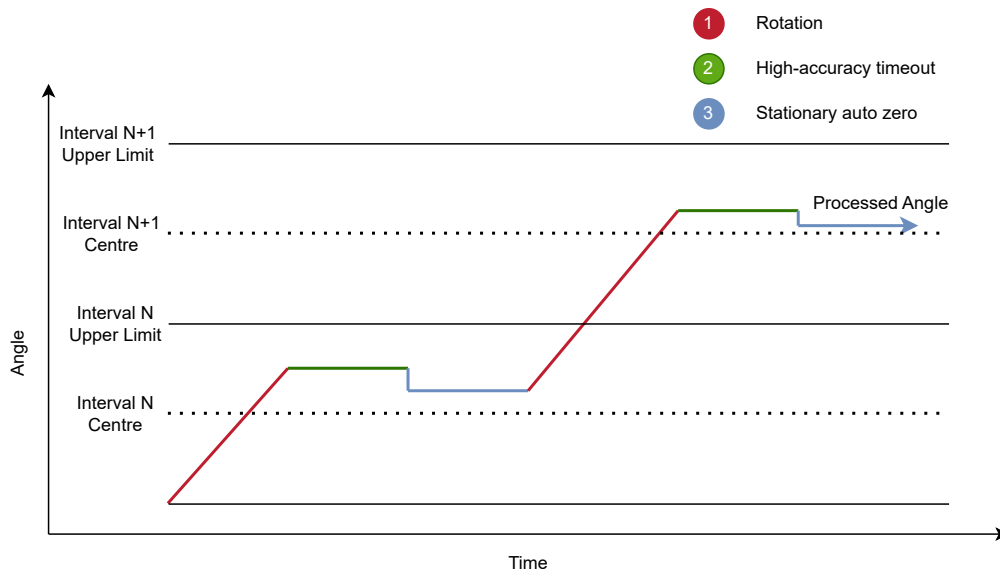

Figure 5.4: Stationary Auto-zero Behaviour
- > **Stationary**: An auto-zero event will occur when the High-Accuracy timeout event occurs. A single adjustment is made to the absolute angle offset each time the device exits High-Accuracy mode. The *Auto-Zero Beta* parameter defines the size of the adjustment, with an auto-zero beta value of 0 resulting in a jump to the exact center of the interval. This behaviour can be seen in Figure 5.4.